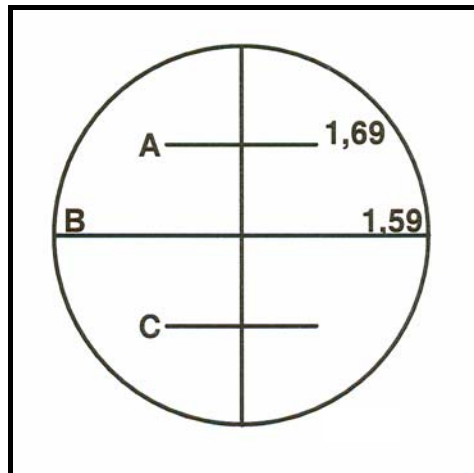

FIGURE 2.5
- 2.5 FIGURE 2.5 below shows two readings (**A** and **B**) as seen through the eyepiece of a dumpy level. Calculate the reading at **C**.